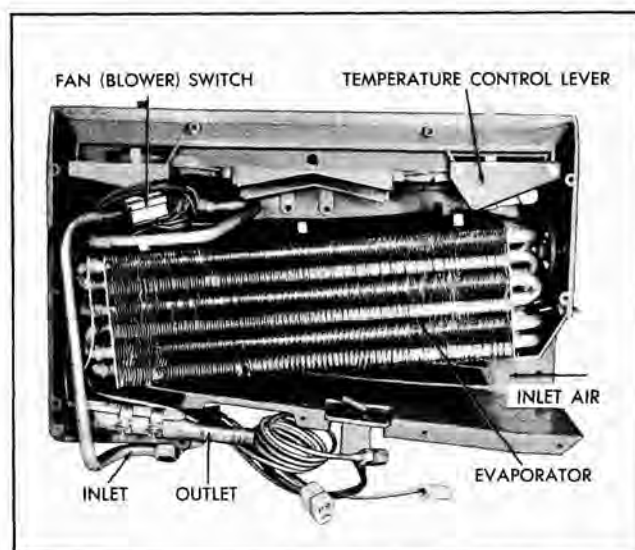

Fig. 6-26 Viewing Evaporator with Lower Pan Removed
5. Remove two screws retaining blower switch to evaporator housing and remove switch assembly (Fig. 6-26).